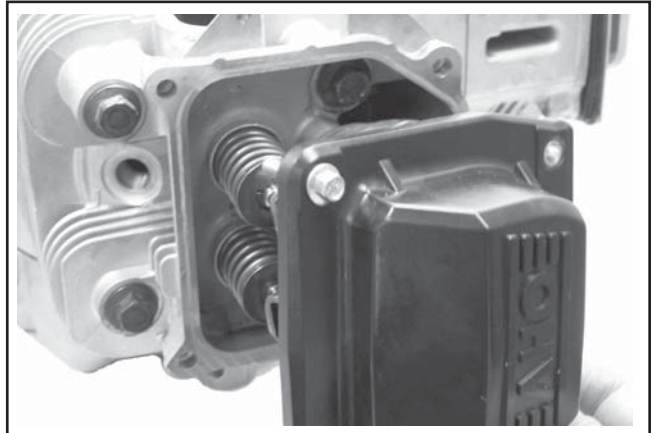

Figure 8-26. Removing Valve Covers.
1. Remove the four hex flange screws securing each valve cover. Most valve covers have the screw hole spacers molded in place. Remove the valve covers and O-Rings. See Figure 8-26.